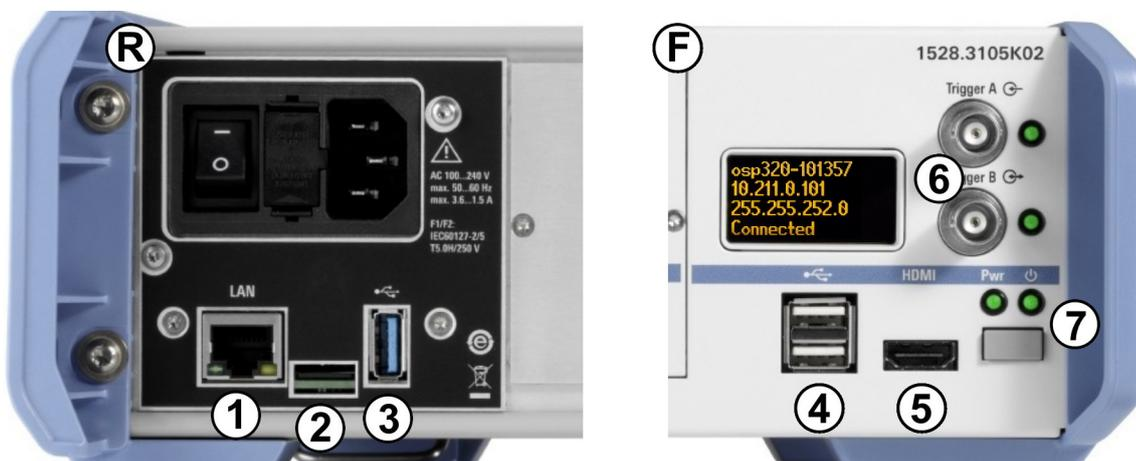

Figure 6-4: Connectors and functional elements on the switch unit's rear and front panel
R Int = Rear interfaces, see Figure 6-4
R Int = Rear interfaces, see Figure 6-4, with an additional D-Sub 9 trigger connector
Alternatively, with any of the R&S OSP models, you can control your switch unit via an external mouse and keyboard, connected to the USB interfaces (see (4) in Figure 6-4). Optionally (especially without integrated touchscreen), you can connect an external monitor to the switch unit's HDMI interface (see (5)).
For connecting external devices, see Figure 6-4.
- As on the right-hand side in Figure 6-1, connect an external monitor to the HDMI connector on the unit's front panel (labeled (5) in Figure 6-4). Also connect a mouse and keyboard to the USB connectors, labeled (4).
- Connect the switch unit to a local area network (LAN) by the RJ45 connector on the unit's rear panel. The connector is labeled (1) in Figure 6-4. Read the unit's IP address from the status display and proceed as described in Chapter 6.1.2, "Manual Remote Operation", on page 30, or Chapter 6.1.3, "Remote Operation by SCPI Commands", on page 30.